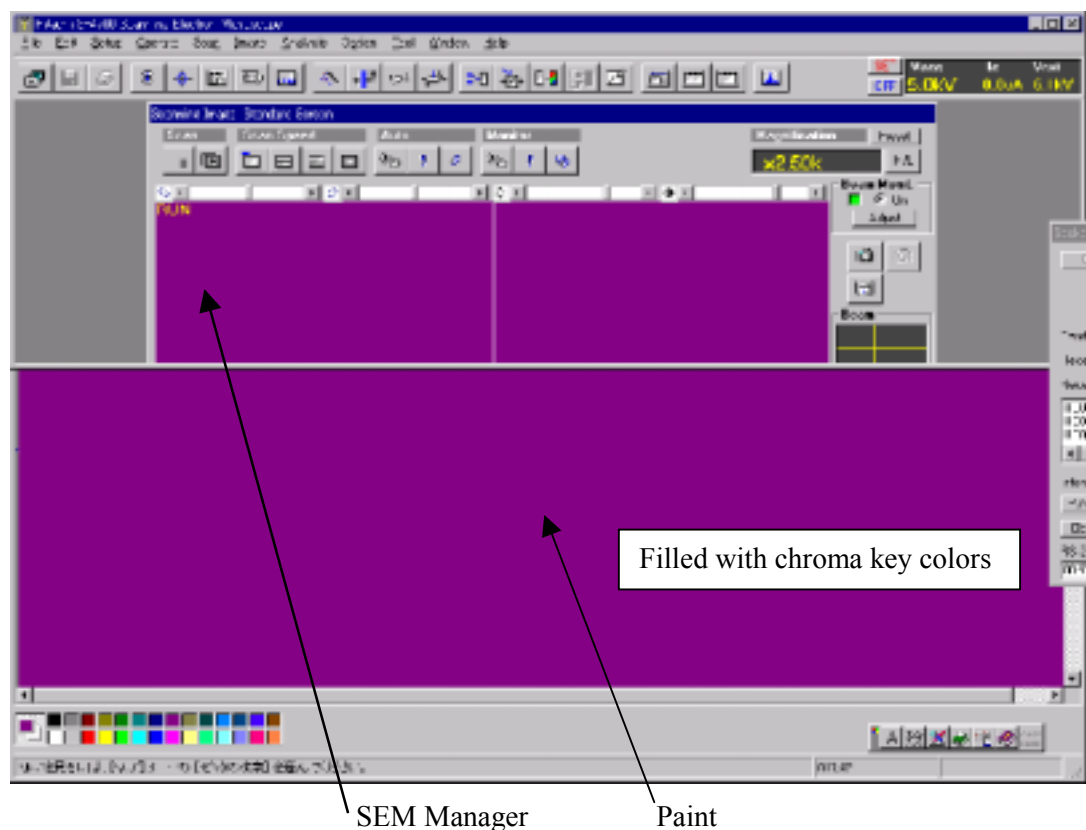

Figure 9-1: Chroma Key Adjustment
1. Use the Data Manager to open a previously created BMP file, 640 x 480 in size, and transfer it back to the image memory. For ease of adjustment, the BMP file should be one in which a box cursor is drawn on its outermost frame. On the Standard Mode screen, set the PLL division ratio for the Superimposer Adjustment window so that the width of the frame for the area in which the SEM image is displayed is closest to the width of the frame for the area that the Superimposer displays. For ease of adjustment, use the Windows application Paint to create a canvas substantially larger than 640 x 480, fill it with F = 128, G = 0, B = 128 colors, and display this area by superimposing it on the SEM Manager (**Figures 9-1, 9-2**).